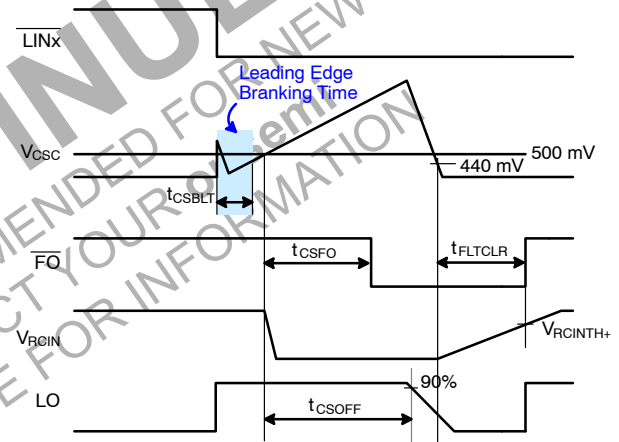

Figure 43. RCIN and Fault-Clear Waveform Definition
Figure 43 shows the waveform definitions of RCIN, \overline{FO} , and the low-side driver; which uses a soft turn-off method when an under-voltage condition of the low-side gate driver supply voltage (V_{DD}) or the current-sense pin (CS) recognizes a fault. If a fault condition occurs, the \overline{FO} Pin is internally pulled to COM and all outputs (HO1,2,3 and LO1,2,3) of the gate driver are turned off. Low-side outputs decline linearly by the internal sink current source ($I_{SOFT} = 40 \text{ mA}$) for soft turn-off, as shown in Figure 43.